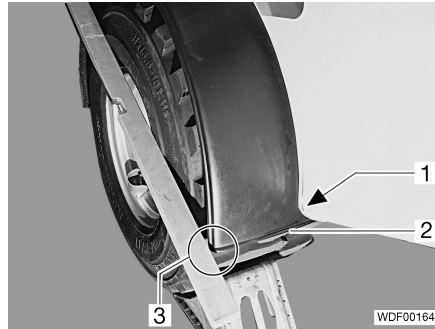

Fig. 321 Fender attachment
- Place the fender into position so that the bead (Fig. 321,2) is exactly below the rear carriage and the wheel projects approximately 10 mm over the fender (Fig. 321,3).
- Mark the position of the first hole (Fig. 321,1) and drill it.
- Screw in the 1 screw (Fig. 321,1).